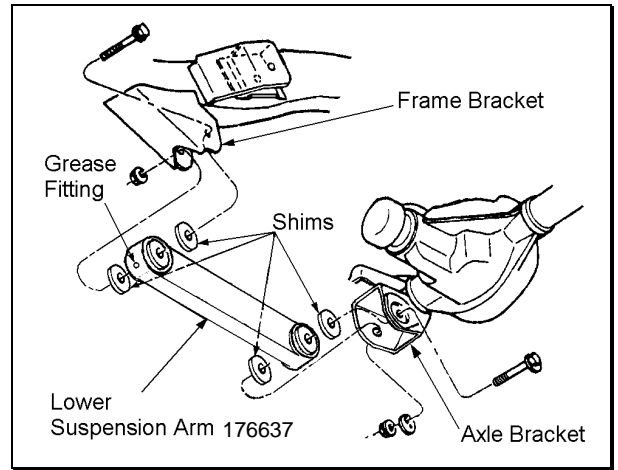

Figure 5
5. Install a new Rancho Lower Suspension Arm, along with four shims from kit 860070, to the frame and axle brackets. See figure 5. Use original hardware but do not tighten.